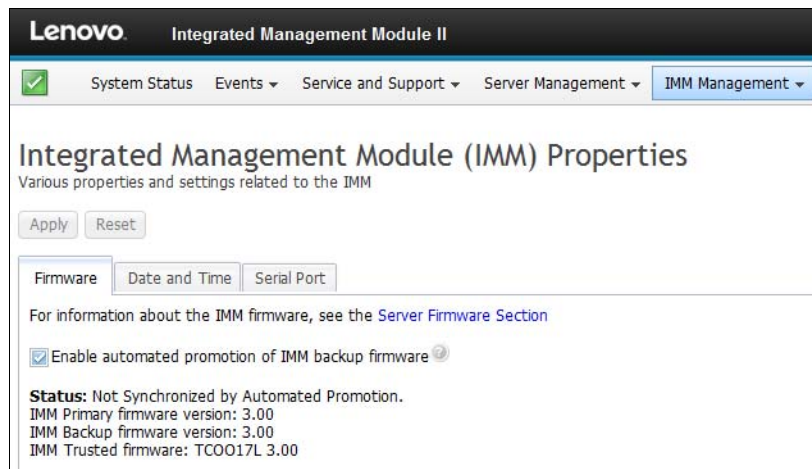

Figure 7-93 IMM2 properties pane
2. Browse to **IMM Management** → **IMM Properties**, as seen in Figure 7-93.